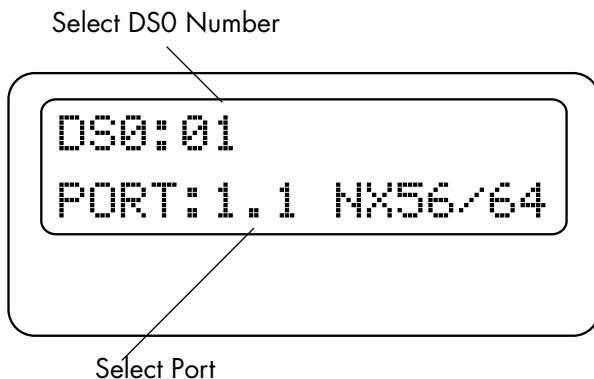

Figure 5-8. Create Temp Selection Screen
1. With the cursor on **CREATE TEMP**, press **Enter**. The unit displays the selection screen with the cursor positioned on the first selection DS0 number. See Figure 5-8.